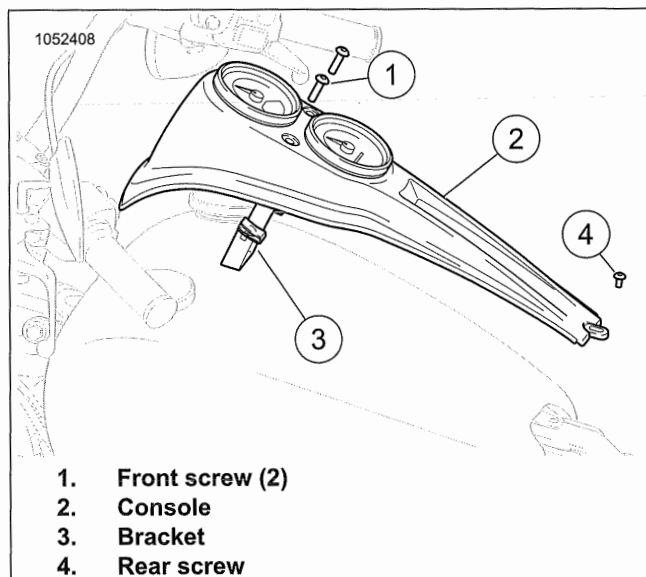
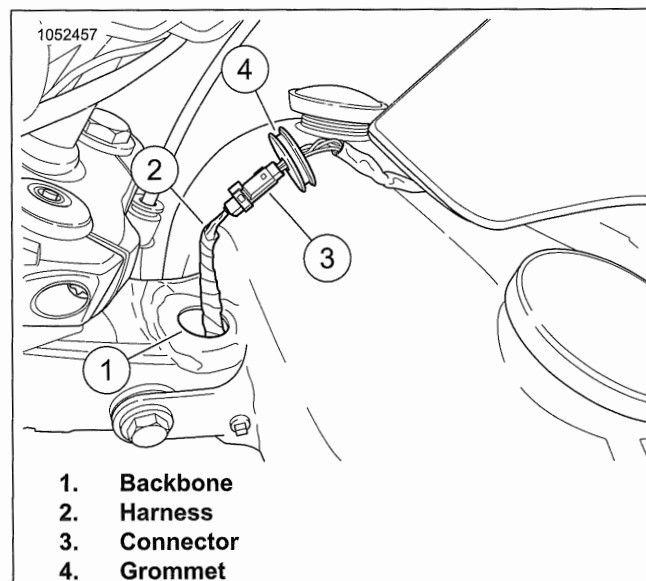

Figure 6-3. Console
Figure 6-4. Console Harness
1. See Figure 6-3. Detach console.
- a. Remove front screws (1).
- b. Remove rear screw (4)
- c. Move console (2) rearward.
2. See Figure 6-4. Disconnect connector.
- a. Remove grommet (4) from backbone (1).
- b. Pull harness (2) from backbone.
1. See Figure 6-4. Connect connector.
- a. Connect connector (3).
- b. Feed harness (2) into backbone (1).
- c. position grommet (4) into backbone.
2. See Figure 6-3. Install console.
- a. Align console (2) with bracket (3).
- b. Install front screws (1).
- c. Install rear screw (4).